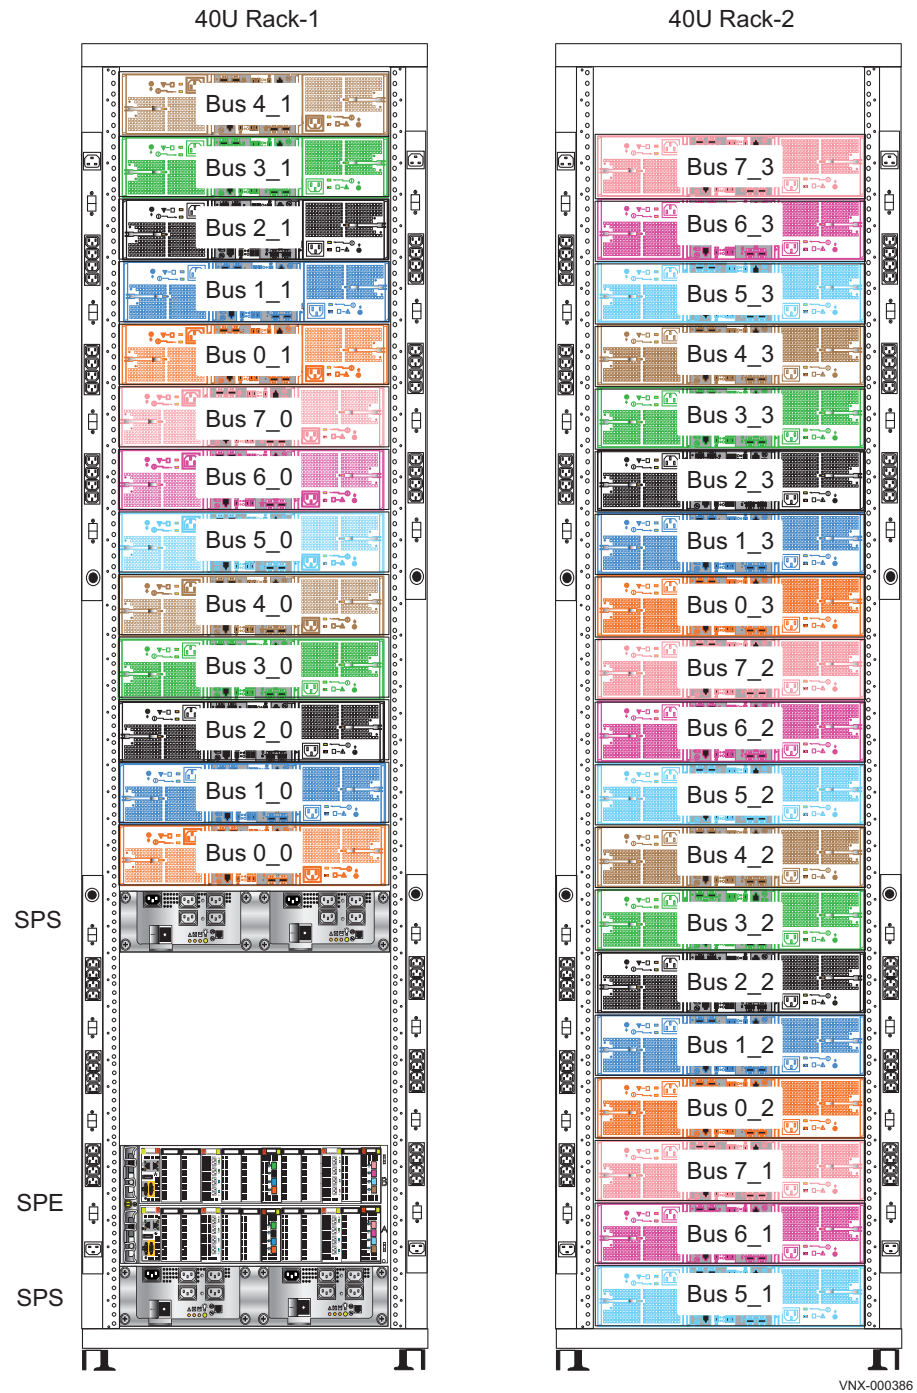

Figure 123 Example of thirty-two 2U, 25 DAEs in a Block interleaved system
- Eight-bus factory-shipped Block system using thirty-two 2U, 25 disk DAEs in an interleaved configuration (Figure 123 on page 152)
Figure 123 shows an example of two 40U racks having thirty-two 2U, 25 DAEs configured in a Block interleaved configuration.